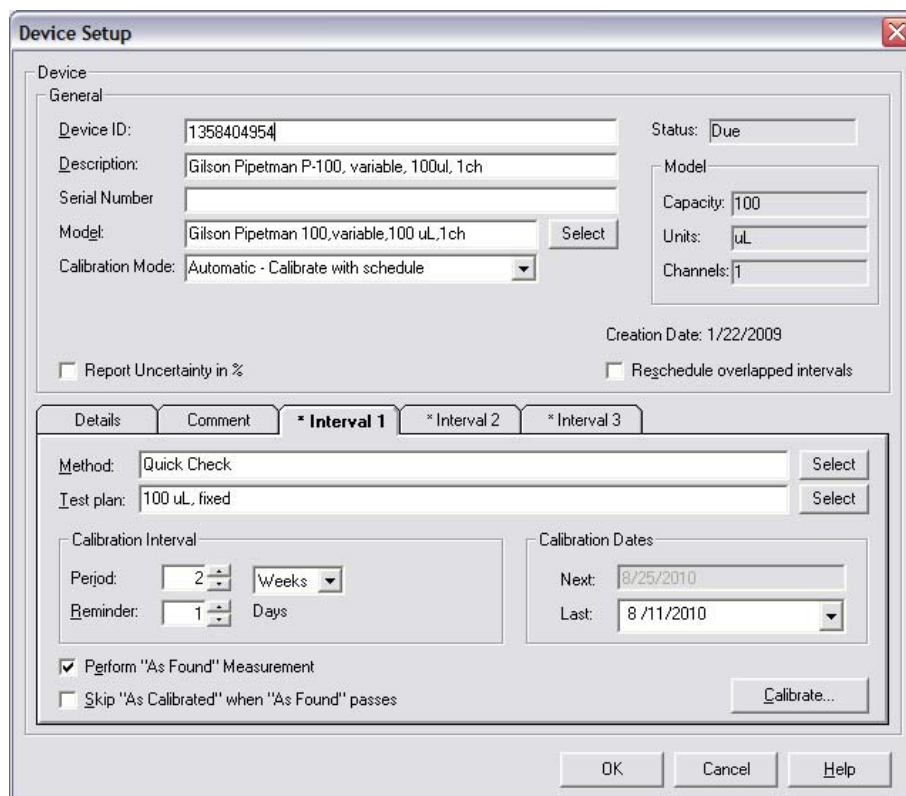

Figure 1
1. Within Artel Pipette Tracker, select the pipette to be calibrated from the Inventory or Worklist. Choose "Calibrate Selected Device" from the menu. If the pipette is not in the Inventory, choose Setup | Device and then Add the pipette to the Device List before calibrating it. Be sure to complete at least one Interval tab on the Device Setup dialog. (See Figure 1)
19. The Pipette Tracker Software will automatically flag when the next calibration is due if the user programs the Calibration Period within the Interval tab on the Device Setup window, Figure 1.